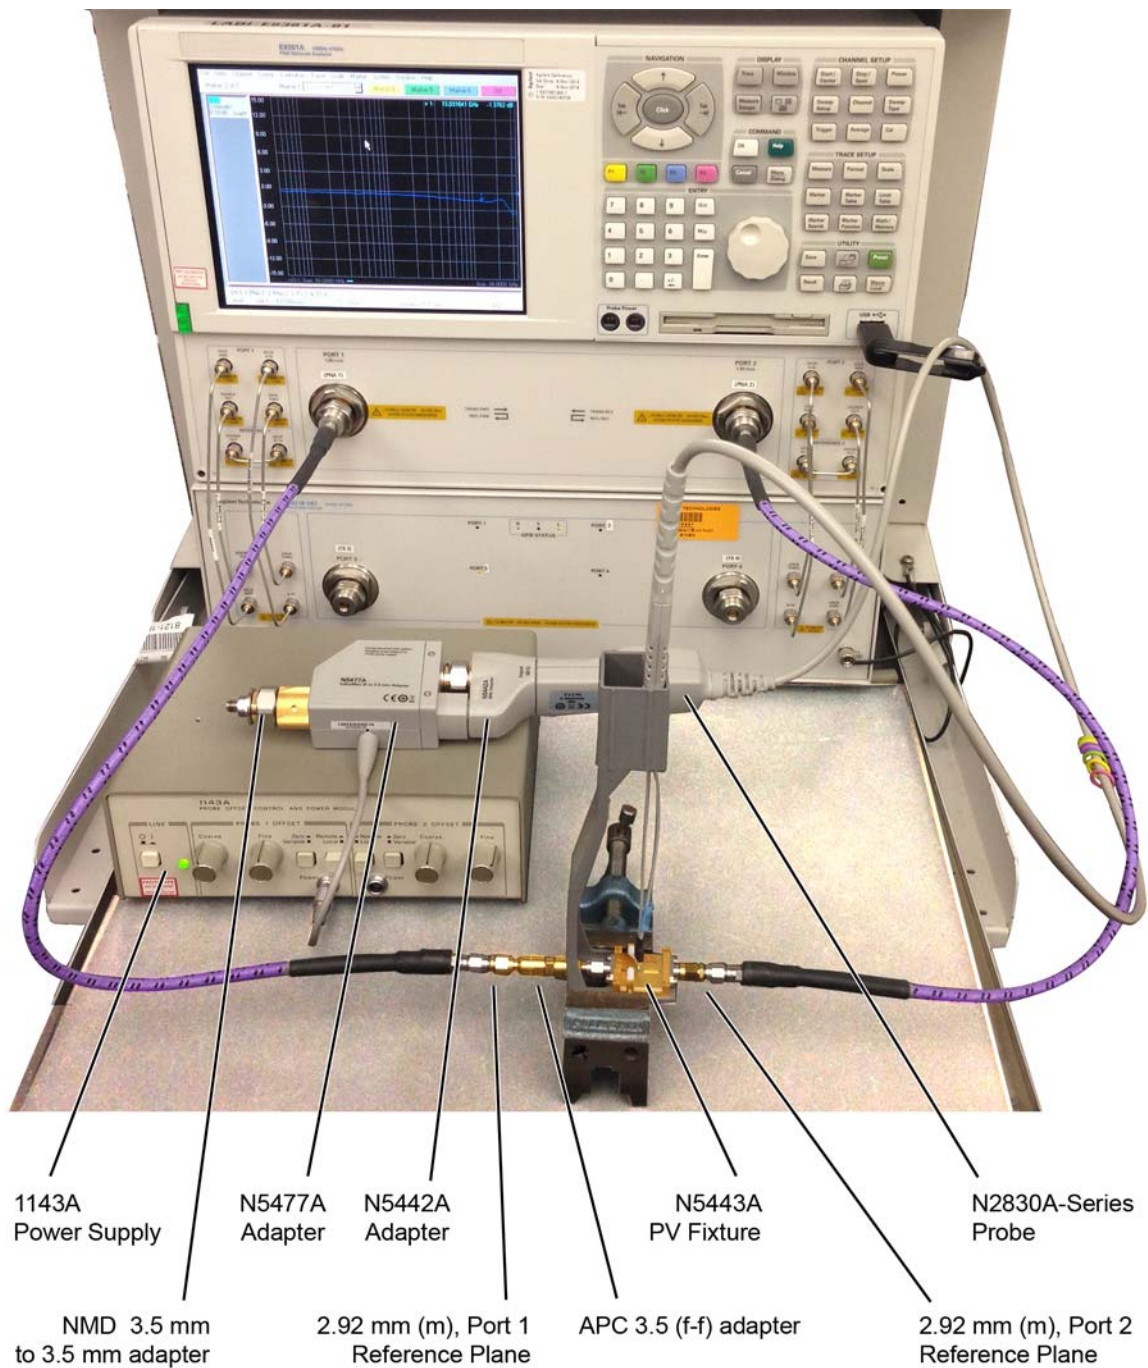

Figure 90 Test Setup for Measuring V_{in} of Probe
- 3 Connect the APC 3.5 (f-f) adapter, provided with the N5443A PV fixture, to the N5443A. as shown in **Figure 90** on page 108. Use a small bench vise to steady the N5443A PV fixture on the test surface.